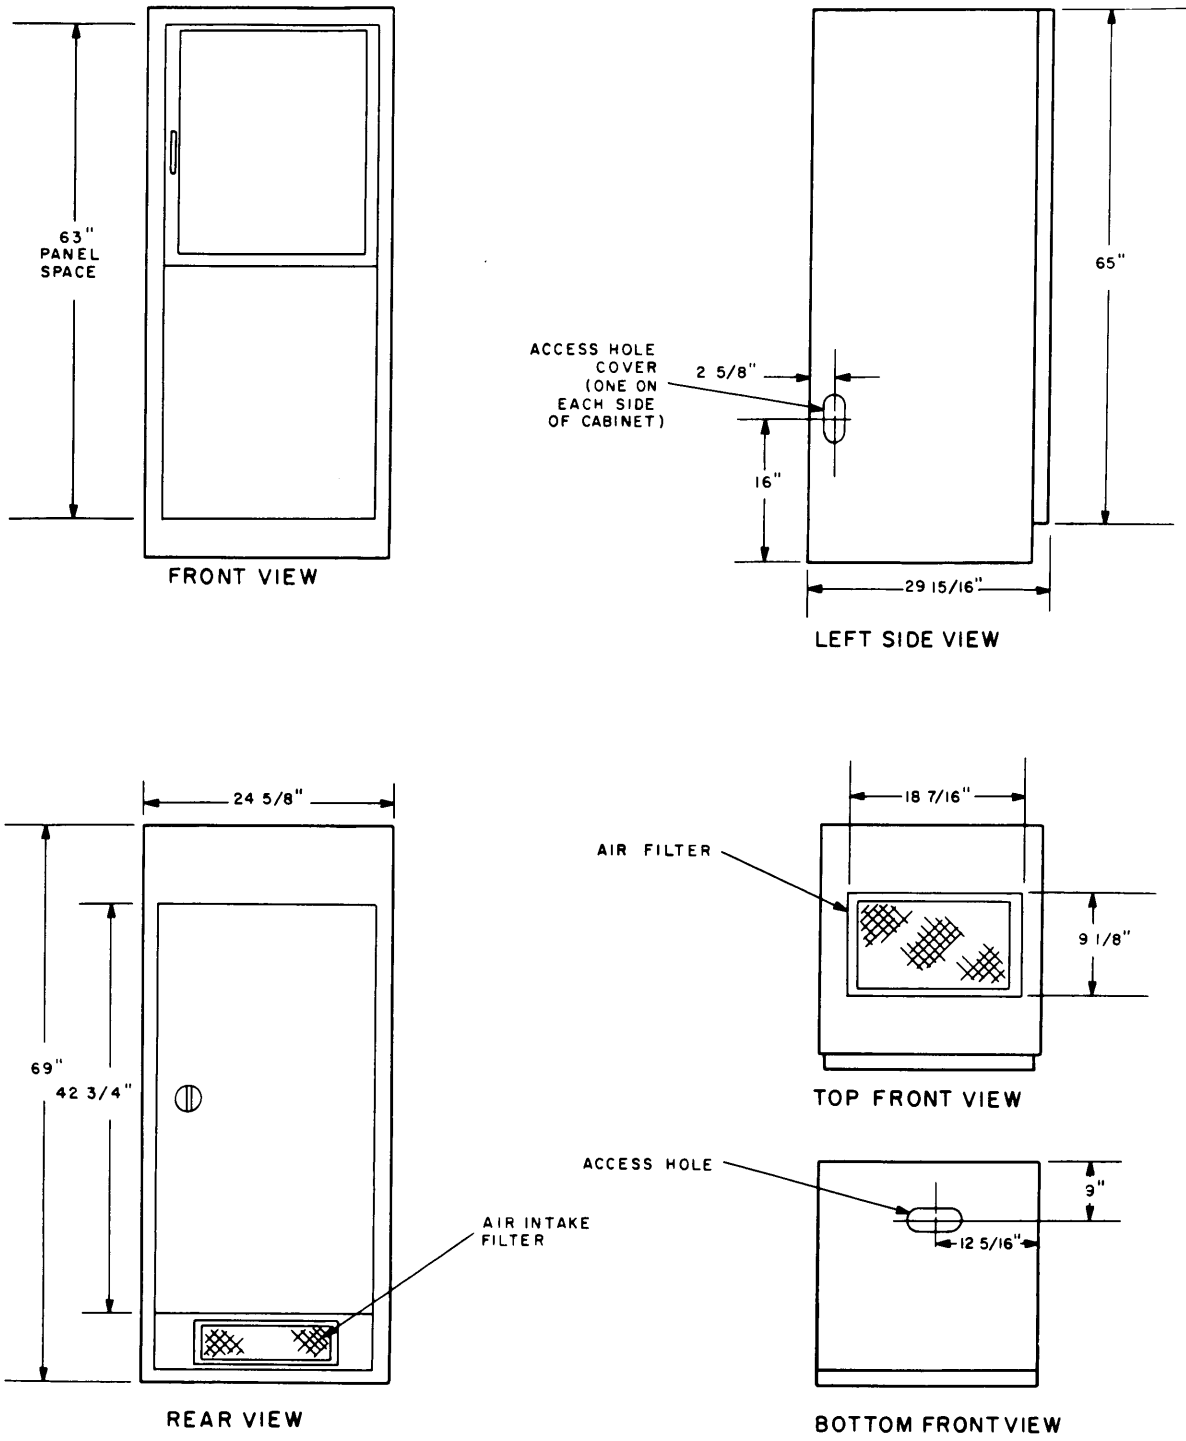

Figure 2-2. DDR-5A, Dimensional Outline Drawing
b. LOCATION OF RECEIVER. - Before attempting to install the DDR-5B, ensure that adequate power (paragraph 2-2) is available at the selected site or location. After unpacking and inspecting the cabinet (RAK-21B1), remove modular units and place the cabinet in its operating location. It is advisable to do this while modular units are not installed because the added weight of the assembled receiver will make movement more difficult. Refer to dimensional outline drawing figure 2-2 when choosing the operating location. Sufficient space to open front and rear cabinet doors is one of the prime considerations when choosing the operating location. The DDR-5B has self-contained squirrel cage blowers for cooling; air intakes for the blowers are located at the lower rear of the cabinet, and air exhaust is through openings in the top of the cabinet. Air intake and exhaust ports should be kept clear to assure adequate heat dissipation.
(1) Untape or unstrap cable assemblies, NEGATOR B motors, and all other components secured to the RAK-21B1 frame for shipment.
(2) Pull center section of associated compartment track out until it locks in an extended position.
(3) Position slide mechanisms of modular unit in tracks, and ease modular unit forward into rack until rearward release fingers or lock buttons engage hole in track.
(4) Make the necessary cable and electrical connections as described in paragraph 2-3, d.
(5) Depress forward release fingers or lock buttons, and slide modular unit completely into compartment.
(6) Secure front panel of modular unit to RAK-21B1 with screws.